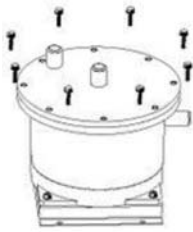

Figure 1 Remove the bolts
- Loosen a bolt on the drain filter cover by using a socket wrench(10mm). (Figure1)